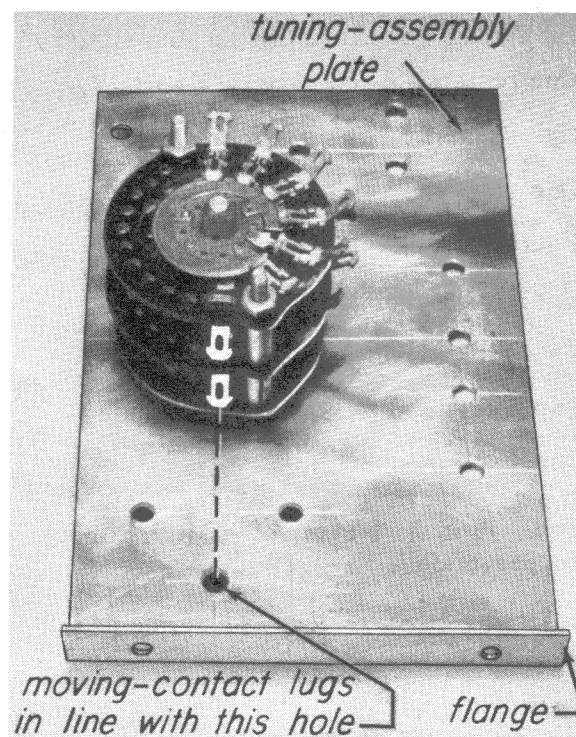

Fig. 21-3
Step 4. Hold the tuning assembly plate with the flange down over the switch, and put the switch shaft through the large hole in the plate. Thread the locknut on the shaft, making it only finger tight. Rotate the switch until the moving contact lugs face the flange and are in line with the hole nearest the flange, as shown in Fig. 21-3. Now tighten the mounting nut, keeping the switch in this position.